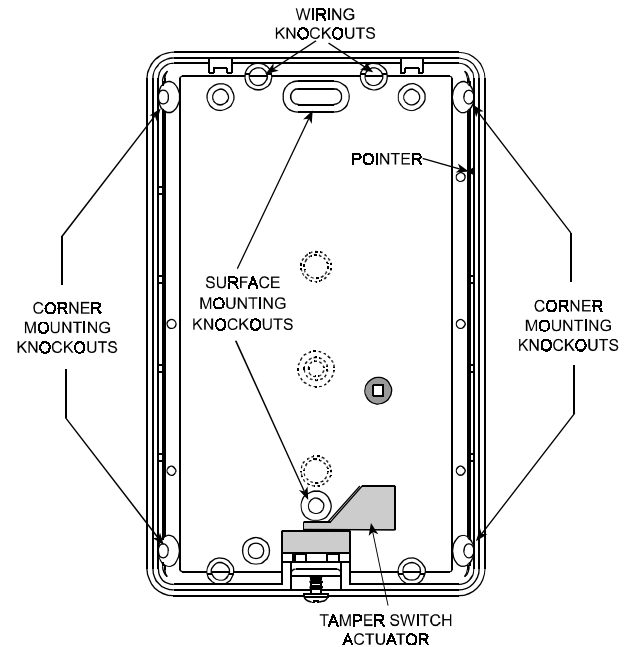

Figure 5. Base after PCB Removal
- D. Refer to Figure 5 and punch out the mounting knockouts at the rear of the base (for surface mounting) or at the angled sides (for corner mounting).
- E. Punch out any one of the wiring knockouts shown in Figure 5.